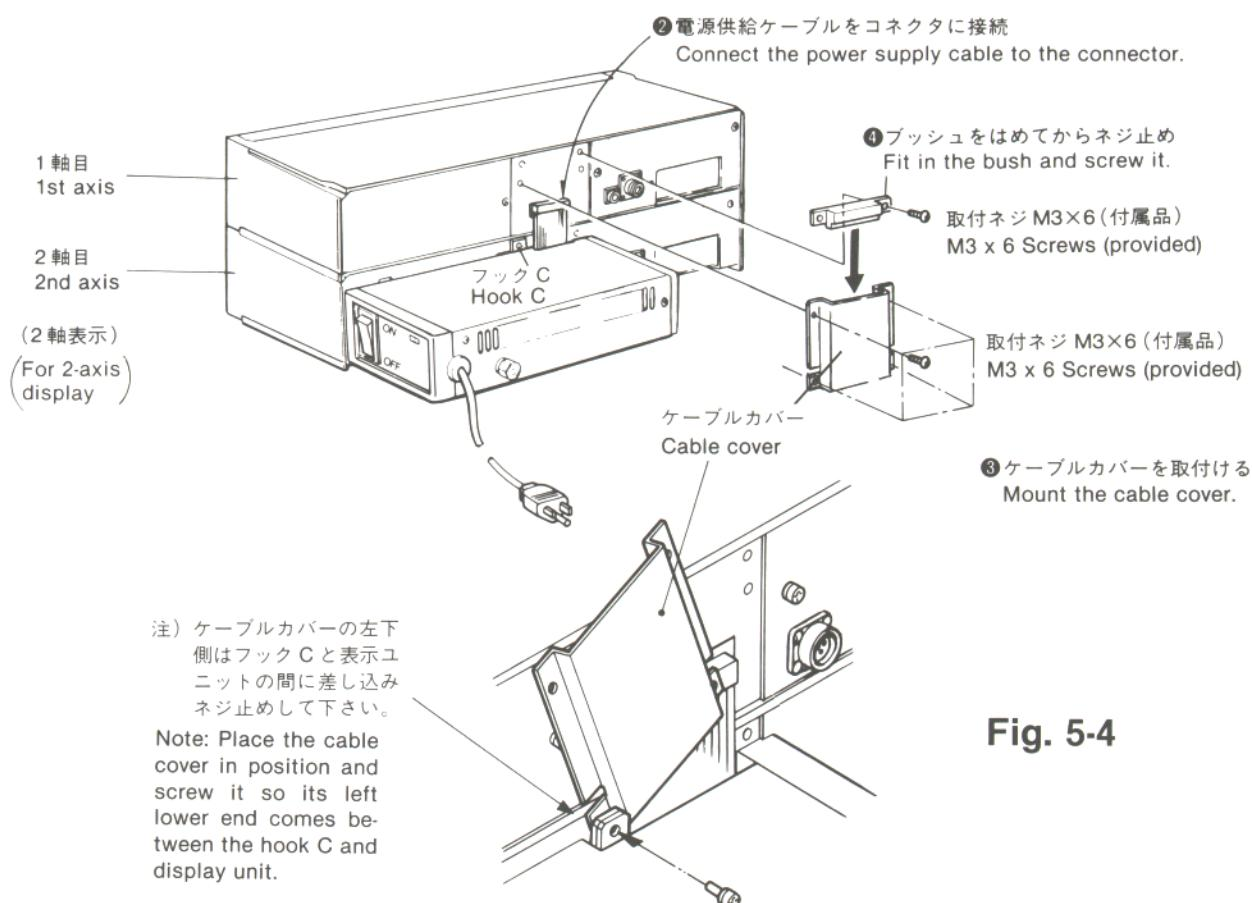

Fig. 5-4
(Fig.5-4/5-5)
- ④2,3軸表示の場合は、ケーブルカバーの上端にブッシュをはめ、ネジで固定します。(Fig.5-4/5-5)
- ③ Mount the cable covers, which shield the cables and hold the units together. (Fig. 5-4/5-5)
- ④ When display units are stacked on one another for multi-axis display, insert the bush in the upper end of the cable cover and fix it with the screw provided. (Fig. 5-4/5-5)